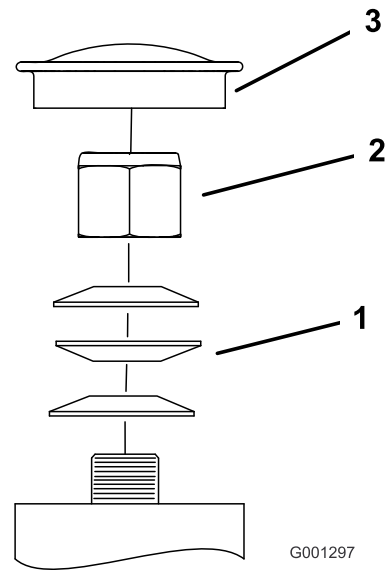

Figure 60
3. Remove the dust cap from caster and tighten lock nut (Figure 60).
4. Tighten the locknut until the spring washers are flat and then back off a 1/4 turn to properly set the pre-load on the bearings (Figure 60).
Important: Make sure spring washers are installed correctly as shown in Figure 60.
5. Install the dust cap (Figure 60).